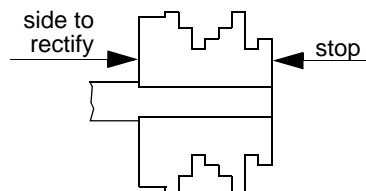
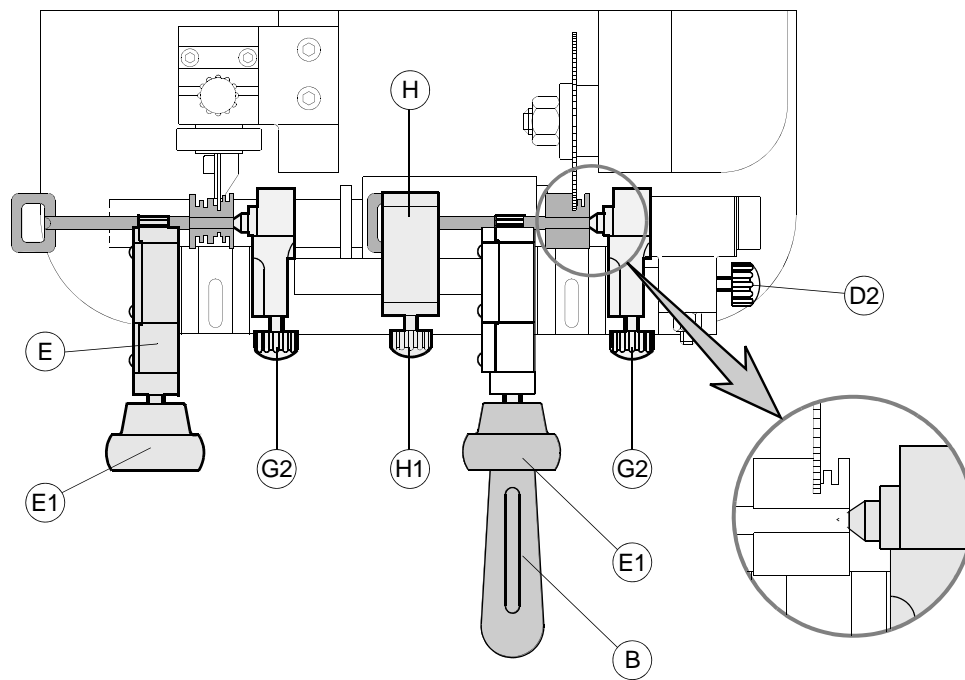

Fig. 17
Fig. 18
- 1) Align the mobile clamp (cutting tool side) by means of the carriage locking knob (fig. 18).
- 5) Push the key into the centring device so that the bit butts against the stop (fig. 18).
- 8) Take the head stop (H) up against the key to be cut and lock the knob (H1).
- 11) Turn on the key-cutting machine by means of the motor ON switch (N).
- 12) Take the carriage up to the tracer point and cutting tool by raising the carriage lever (A).
- 13) Grip the lever (B), turn upwards to avoid the cutting tool coming into violent contact with the bit and cut the tooth.
- 16) It is advisable to rectify the side of the key opposite the stop (fig. 17)